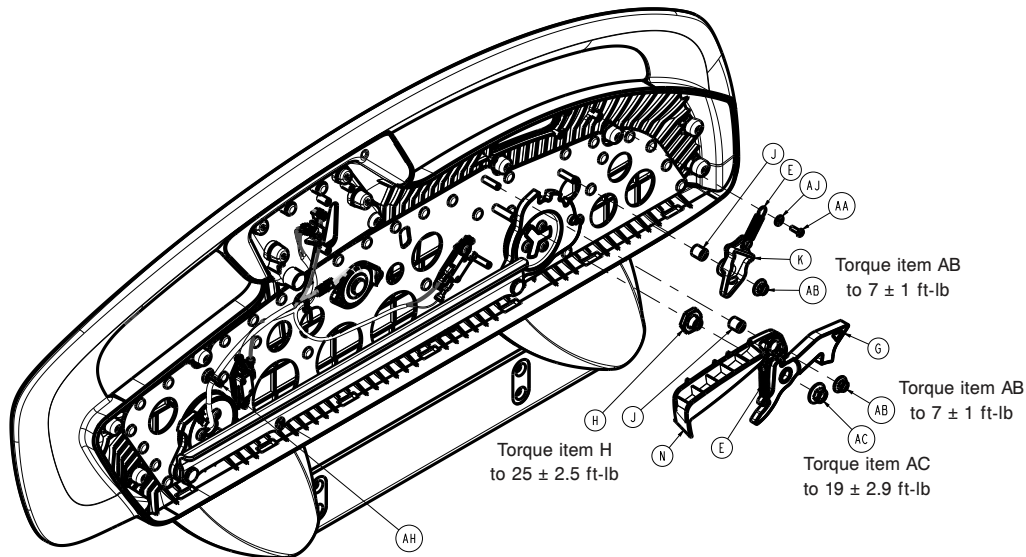

Figure 57 – Replacing the head siderail hoop
16. Using a ratchet and a 1/2" socket, remove the nut (AB) that secures the latch activation lever and latch pawl assembly (G) (Figure 57). Remove and save the activation lever and detent pawl (E).
17. Using a ratchet and a 9/16" socket, remove the nut (AC) that secures the siderail latch to the siderail hoop (Figure 57). Remove the latch.